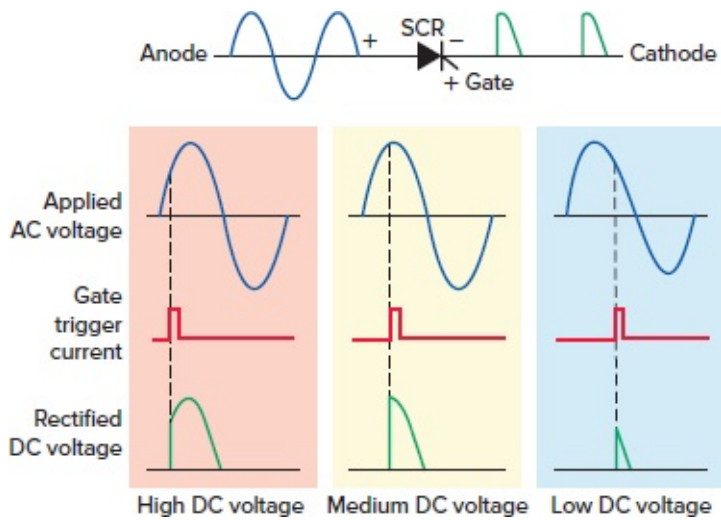

Figure 10-41 SCR conversion from AC to variable DC.
- The firing angle, or point in time where the SCR is triggered into conduction, is synchronized with the phase rotation of the AC power source, as illustrated in Figure 10-41.